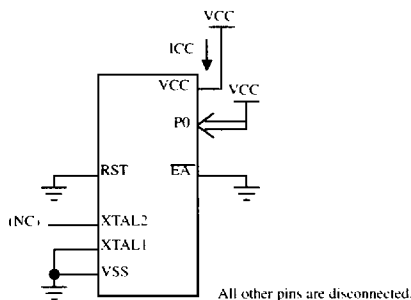

Figure 19. ICC Test Condition, Power Down Mode.
- Idle ICC is measured with all output pins disconnected; XTAL1 driven with TCLCH, TCHCL = 5ns, $V_{IL} = V_{SS} + 0.5\text{V}$, $V_{IH} = V_{CC} - 0.5\text{V}$; XTAL2 N.C.; Port 0 = VCC; EA = RST = VSS (see Figure 19.)
- Power Down ICC is measured with all output pins disconnected. EA = PORT 0 = VCC; XTAL2 N.C.; RST = VSS (see Figure 19.)